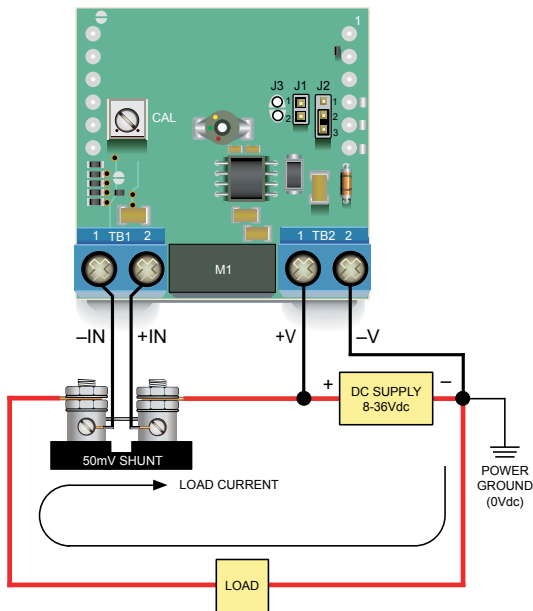
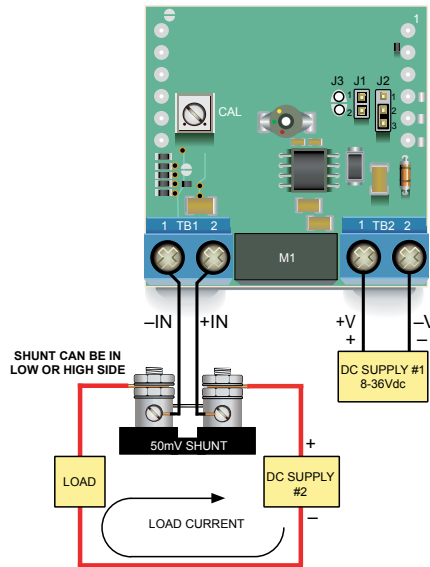

Figure 5. High-Side Shunt Connections for "-DC4" 8-36Vdc Isolated-Power Models
Figure 6. Using "-DC4" Isolated-Power Models to Maintain Isolation Between Two Power Supplies
**High-Side Shunts:** '-DC4' isolated-power ammeters must be used in all applications that employ a single power supply to power both the load and the ammeter and the shunt is located in the high side (positive terminal) of the supply. Figures 5 and 6 depict typical high-side shunt connections. As shown in Figure 6, isolated-power models can also be used in applications